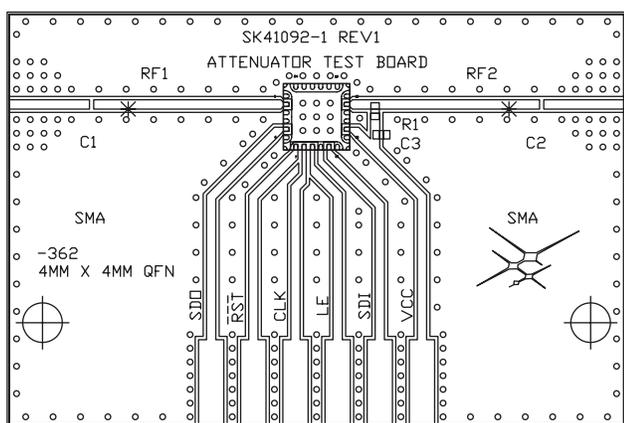
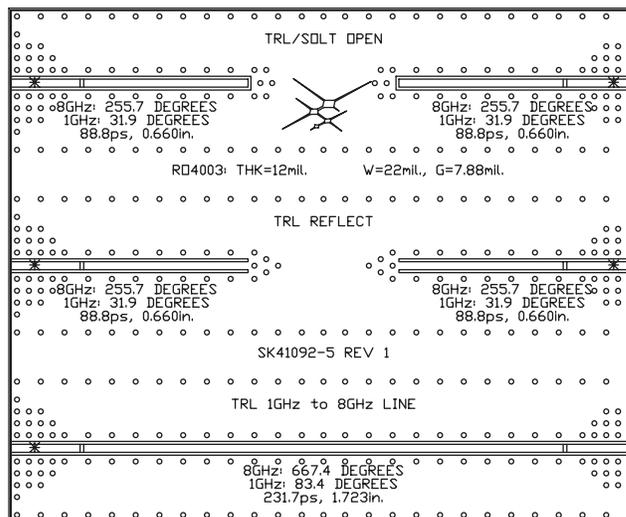

Figure 2. A Typical Skyworks Characterization DUT Test Fixture
Figure 3. A Typical TRL/SOLT Calibration Standards Fixture
A characterization printed circuit board for a two port device packaged in a 4 x 4 mm QFN package is shown in Figure 2. This board has two main RF signal paths, labeled as “RF1” and “RF2.” The remaining signal paths are used for control signals and connection to a power supply. The goal is to remove the effects of the test fixture RF transmission lines in order to obtain the de-embedded S-parameters of the device under test (DUT).
Figure 3 shows an example of a TRL/SOLT standards printed circuit board which was designed to be compatible with the evaluation printed circuit board shown in Figure 2. The board in figure 3 contains a through (T) transmission line and two reflect (R) standards: a pair of identical shorted transmission lines; and, a pair of identical open transmission lines. All of these lines were designed to have the same characteristic impedance as the lines RF1 and RF2 in Figure 2.